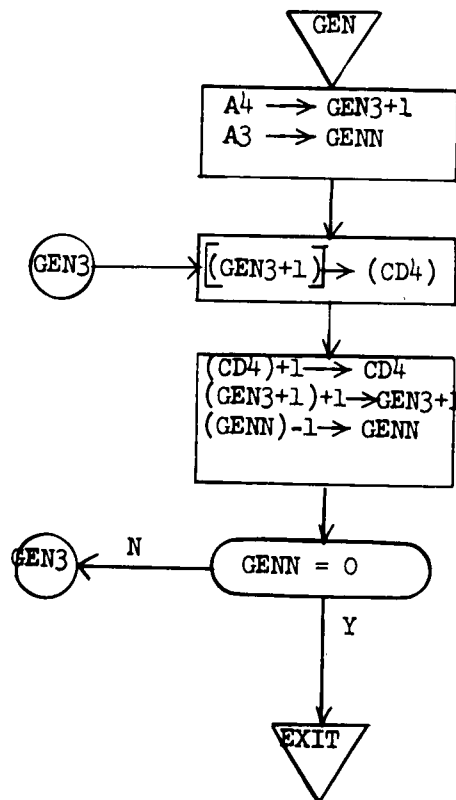

Figure 7.24
7.3.7 SETUP Subroutine (Figures 7.24 through 7.39)
7.3.7.1 GEN Subroutine (Figure 7.24)